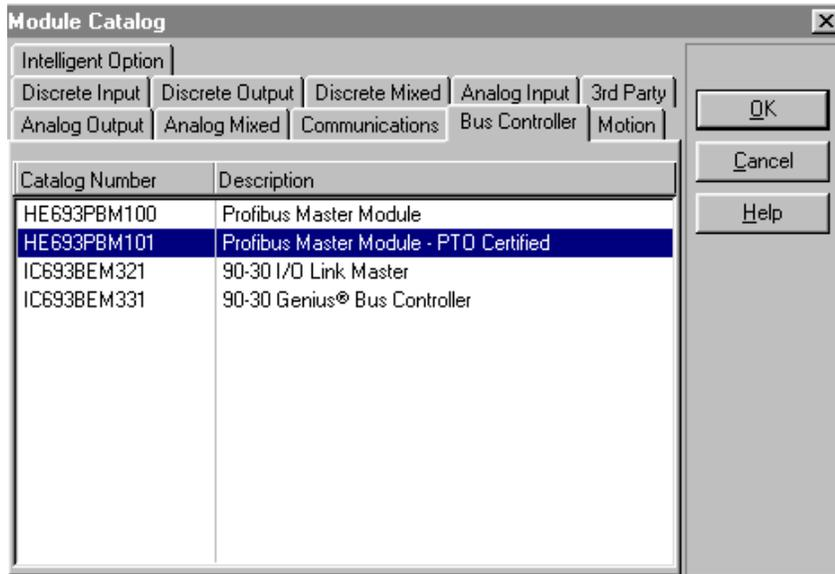

Figure 3.2 - Bus Controller Tab
- Right click on the highlighted slot and select **Add Module**. The Module Catalog screen appears. Select the **Bus Controller** tab. Then, use the mouse to select the HE693PBM101 as shown in Figure 3.2. The empty slot is now replaced with the PBM101 module.